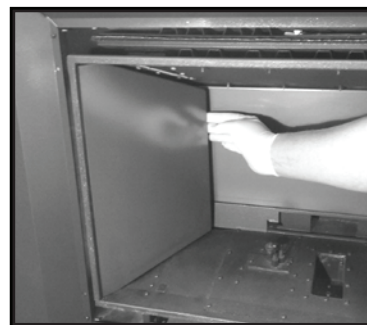

Figure 60: Side panel.
2. Insert first side panel by inserting the front edge of the panel into the lip at the front of the firebox. Then slide the rear part of the panel until it reaches the firebox side wall (Figure 60).